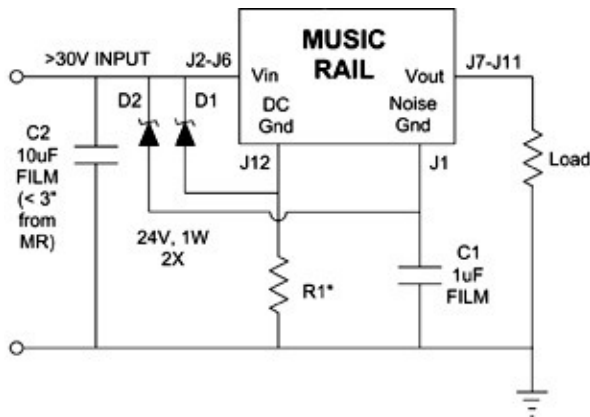

Fig. 5. Bybee High-Voltage Power Supply
In Fig. 2 (above), a MUSIC RAIL module is inserted between the raw power supply and the active circuit. The module now interfaces direct with the active circuit. Signals from circuit stages that share common power supply rails are bypassed by the wideband, low impedance of the MUSIC RAIL. The DC current coming out of the raw supply is at the same time highly filtered by the Module. This dual effect improves the definition of both audio and video signals. The MUSIC RAIL operates safely up to 30V and is adaptable to high-voltage power supplies by the addition of three external parts. See Fig. 5 (below) for high-voltage schematic and page 3 for R1 derating chart.
¹ See Fig. 5, below.
5. A schematic showing value(s) of R1 (Fig. 5) on page 2.